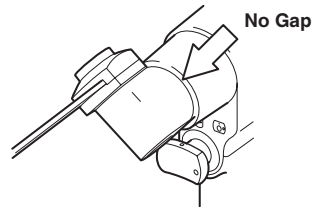

Figure 2 Sagittal Head Positioning
1. Pull the sagittal head forward and away from the handpiece body; then rotate it to the desired cutting angle (see figure 2).
2. Once positioned, gently turn the sagittal head to ensure that it has snapped into place against the handpiece body and is locked into position (see figure 2).